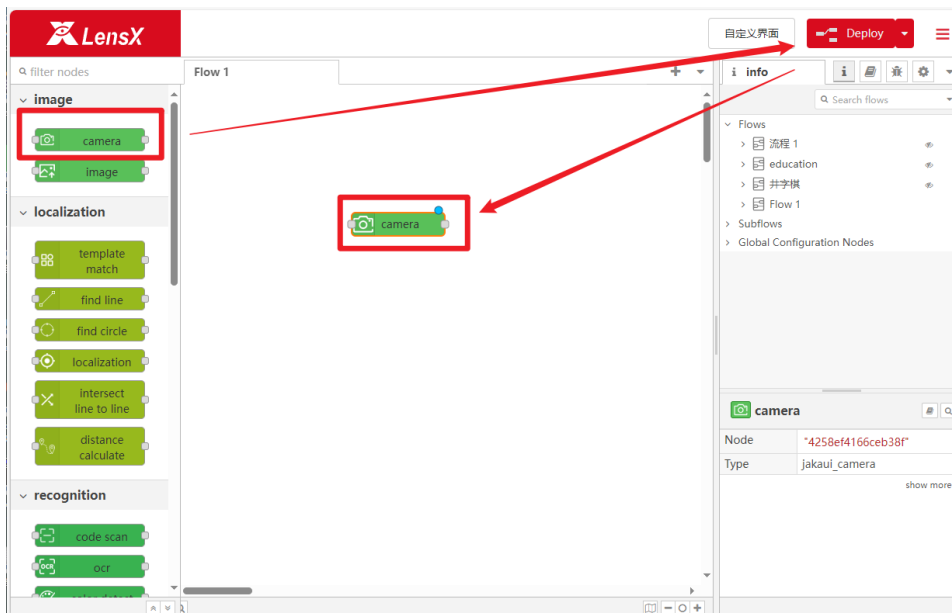

Figure 3.1-1
1) Drag a camera management node into the process, click Deploy, and then double-click to enter the camera management node, such as Figure 3.1-1.